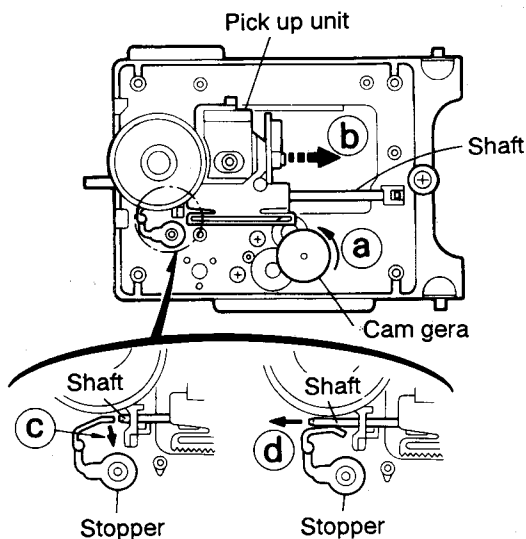

Fig. 5-42
Removing the CD pickup unit (See Fig. 5-42)
2. According to the above step, shift the CD pickup unit to the center position (Fig. 5-42).
3. While pressing the stopper retaining the shaft in the arrow direction (c), pull out the shaft in the arrow direction (d) (See Fig. 5-42).